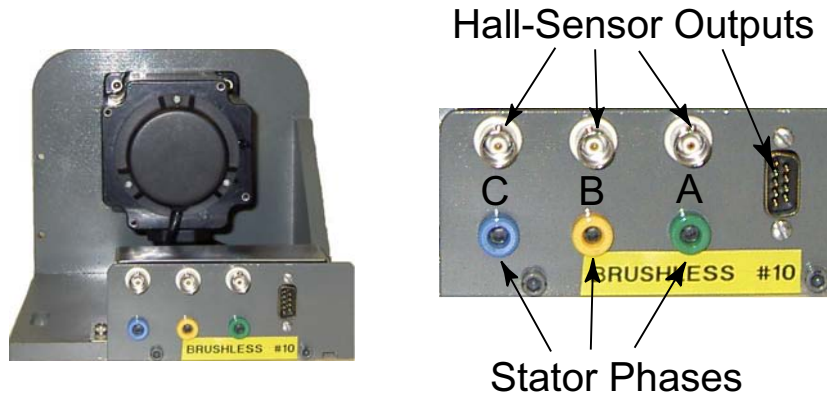
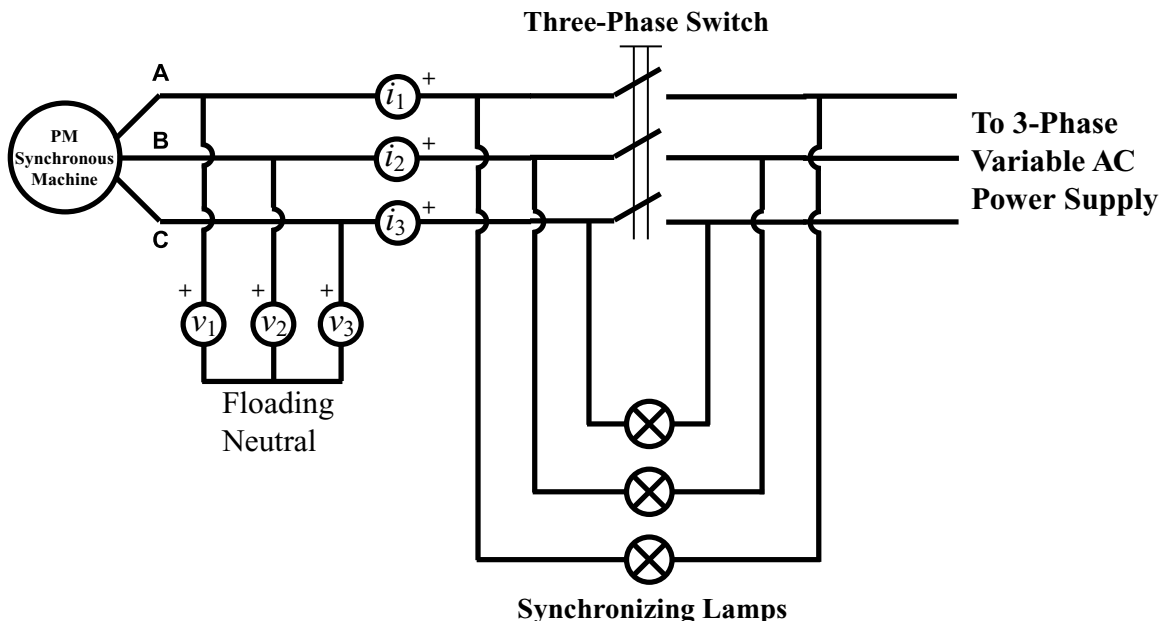

Fig. 2: PM Synchronous Machine terminals.
Fig. 3: Wiring circuit for synchronous motor tests and operation.
The **PM Synchronous Machine** must be mounted on the right side of the **Motor Bench** with its shaft tightly coupled to the **DC Machine** in the Cradle. The **PM Synchronous Machine** has several connections on the back side that are shown in detail in Fig. 2. In the first part of the Lab, the three phases A, B, and C are to be connected to the 3-Phase **AC Power Supply** through the **Measurement Box** as shown in Fig. 3 to enable the Synchronous Motor operation. The combined output of Hall Sensors will be used in the second part of the Lab to enable the Brushless DC Motor operation.
Wire up the circuit as shown in Fig. 3 so that you can simultaneously measure current and voltage in each phase. Make sure that the polarity of each current and voltage channel are connected as shown in Fig. 3 and that the channels are ordered consistently, e.g., Ch.1 current and Ch. 1 voltage are connected to the same phase (same applies to the other channels). All phases must be consistent. **Mismatching the channels will result in incorrect measurements.** Note that Voltmeter Channels form a floating neutral point. This neutral point is used to measure the phase voltages. Although the stator winding is Y-connected, its actual neutral point is not available at the motor terminals. To be able to measure the phase voltages correctly, the button **Subtract Zero Sequence** on the **3-Phase Motor** program interface should be **ON**. Also, **check the boxes to measure all three voltages and currents, as well as torque and speed.**
- 1) Make sure the circuit is wired according to Fig. 3. Initially everything should be OFF and the **3-Phase Circuit Breaker** should be **open**. Perform the following steps to synchronize the **PM Synchronous Motor**. On the LabView program **3-Phase Motor Analysis**, the triggering switch should be in the right position to trigger on voltage.